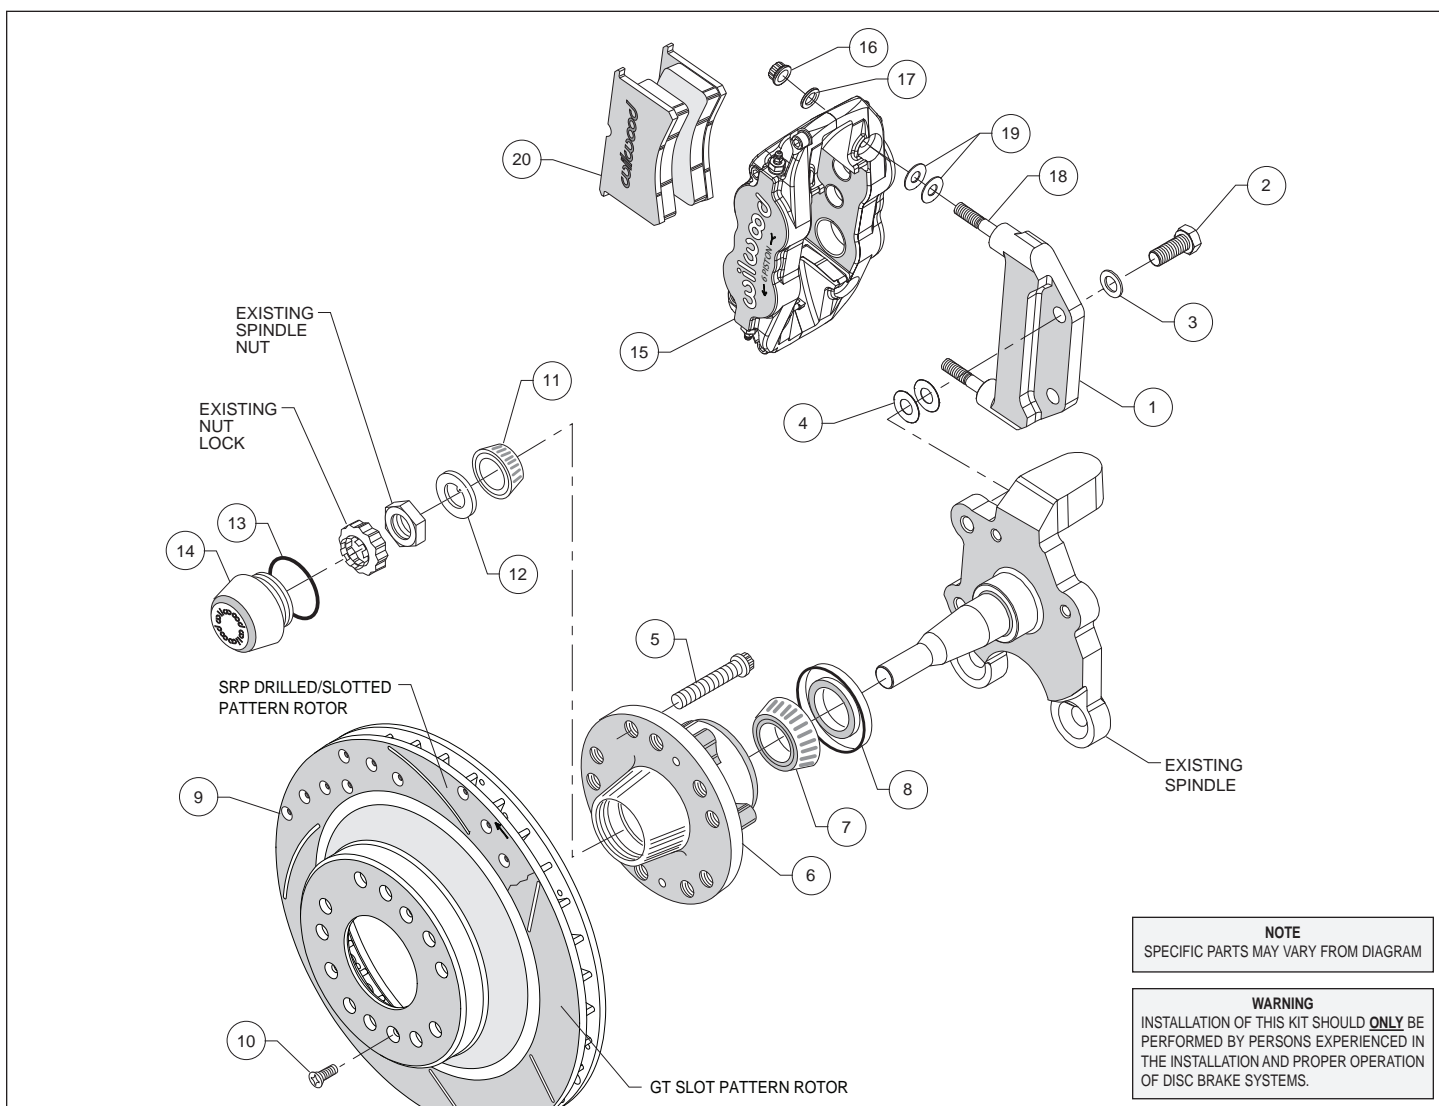

Figure 1. Typical Installation Configuration
Assembly Instructions (numbers in parenthesis refer to the parts list on the preceding page, and Figure 1):
- The caliper mount bracket (1) should initially be installed with clean, dry threads on the mounting bolts. Orient the bracket as shown in Figure 1, and install using bolts (2) and washers (3). Initially place two .015" thick shims (4) on each bolt between the bracket and upright, Figure 1 and Photo 1. Temporarily tighten the mounting bolts. **NOTE:** *The bracket must fit squarely against the mount bosses on the upright.* Inspect for interference from casting irregularities, machining ridges, burrs, etc. Later, after the caliper alignment has been checked, the mount bolts will be secured using red *Loctite*[®] 271.
• **NOTE:** This kit contains distinct right and left hand calipers that must be mounted in a specific direction, as described below. Lubricate the caliper mounting studs (18) with lightweight oil. Initially place two .035" thick shims (19) on each stud between the caliper and the bracket, as shown in Figure 1 and Photo 6. Mount the caliper (15) onto the bracket (1) using lock nuts (16) and washers (17), Figure 1. Ensure that the caliper is mounted so the largest pistons are at the rotor exit end of the caliper, in relation to the direction of rotor rotation. Temporarily tighten the lock nuts and view the rotor through the top opening of the caliper. The rotor should be centered in the caliper, Photo 7. If not, adjust by adding or subtracting shims (4) between the bracket and the upright. Always use the same amount of shims on each of the two mounting bolts. Once the caliper alignment is correct, remove the bracket mounting bolts one at a time, apply red *Loctite*® 271 to the threads, and torque to 77 ft-lb.